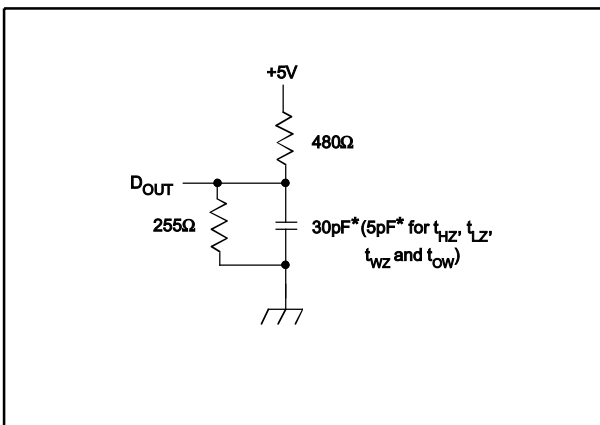

Figure 1. Output Load
7. Transition is measured $\pm 200mV$ from steady state voltage prior to change with specified loading in Figure 1. This parameter is sampled and not 100% tested.
12. Transition is measured $\pm 200\text{mV}$ from steady state voltage prior to change with specified loading in Figure 1. This parameter is sampled and not 100% tested.
Output Load	See Figures 1 and 2